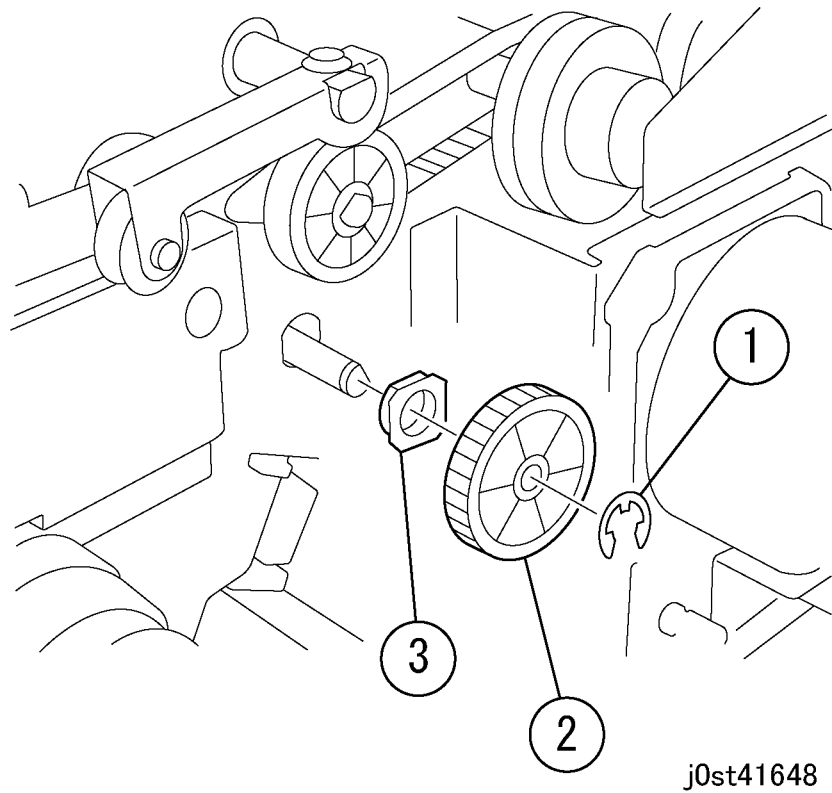

Figure 1 Removing the bearing
3. Remove the bearing. (Figure 1)